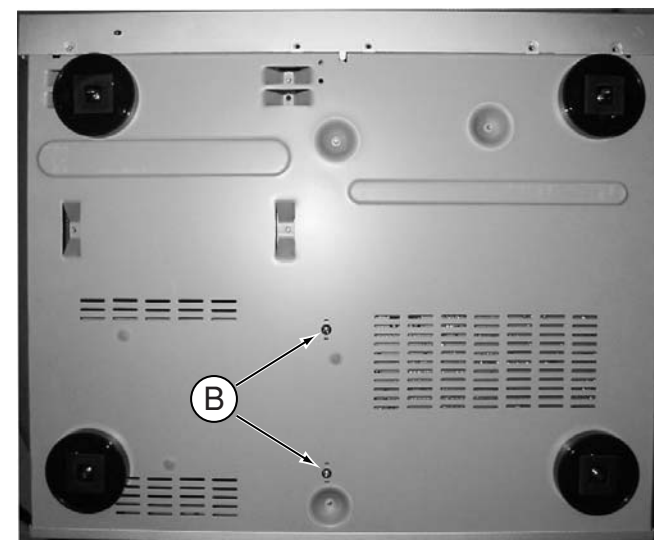

Figure 5
1) Loosen 2 screws "B" on the bottom cover as shown in figure 5.